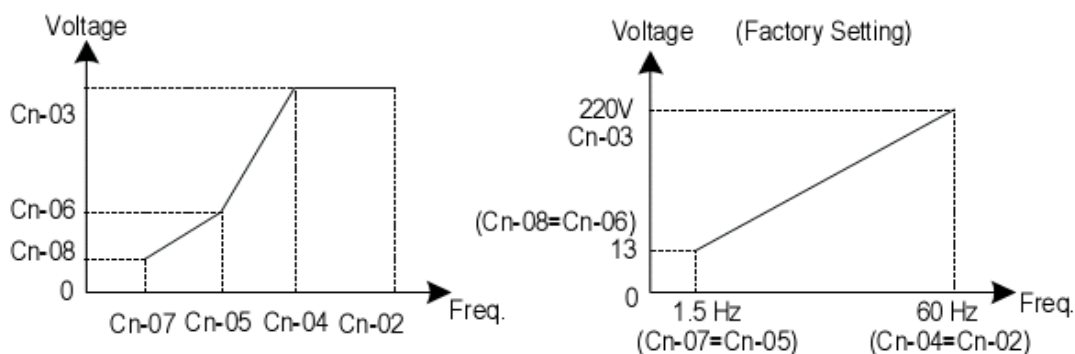

Fig.4-9 V/F Curve Adjustment
(1) Input voltage (Cn-01)
(2) The V/F curve parameter setting (Cn-02~Cn-08)
- When V/F curve select parameter Sn-02=15(any V/F mode),setting the required V/F pattern at random in Cn-02~Cn-08, factory setting standard is regular linearity V/F curve pattern (that is Cn-05=Cn-07,Cn-06 invalid),as shown below(Fig.4-9):